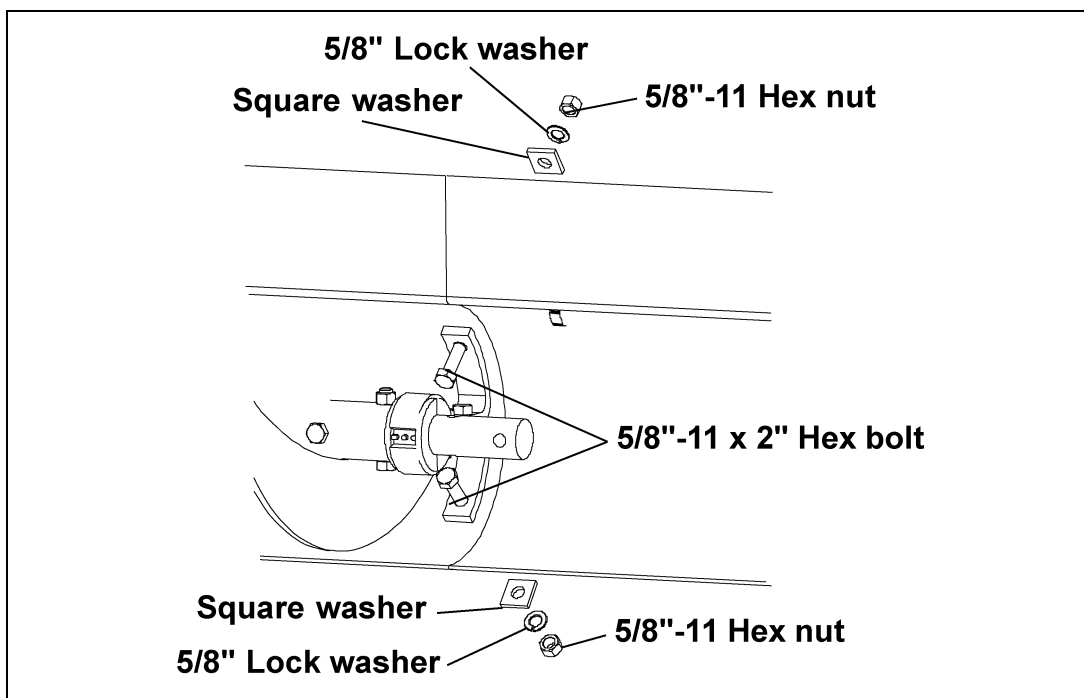

Figure 5N
- B. Bolt the hanger brackets to the back shields using two (2) 5/8"-11 x 2" hex bolts, two (2) square washers, two (2) lock washers and two (2) hex nuts as shown in See Figure 5N.